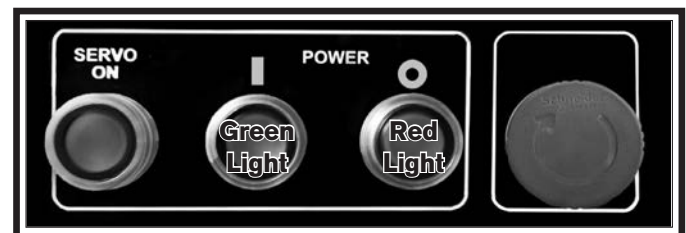

Figure 14. Initial controls.
- Red power light (see Figure 14) illuminates on front of the control panel, indicating that master power switch is operational and machine is fully powered up.
6. Press POWER (I) button (see **Figure 14**) on control panel.
8. Press EMERGENCY STOP button (see **Figure 14**).
22. Press **POWER (O)** button to shut machine **OFF** shown in **Figure 14** on control panel.
- Green **POWER (I)** button light (see **Figure 14**) will go out indicating that **POWER OFF (O)** button is functional and machine is powered but not ready for commands.